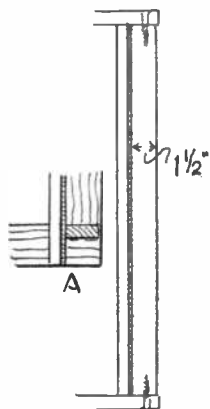

Fig. 2
Cut a piece of $\frac{1}{2}$ in. plywood, large enough to cover the vertical stand on the outside. Fix this on with glue and panel pins. From 1in. thick wood, $1\frac{1}{2}$ ins. wide, cut two pieces long enough to extend from base to top. Screw these in place through the base and top frames, as at Fig. 2, and also through the vertical stand sides. Position at 2ins. in from each side edge, as shown in detail (A) Fig. 2.